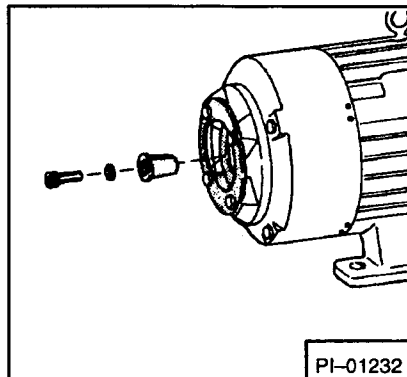

Fig. 4-51 Remove Old Adaptor
9. Remove worn pump drive adapter from motor shaft (Fig. 4-51).